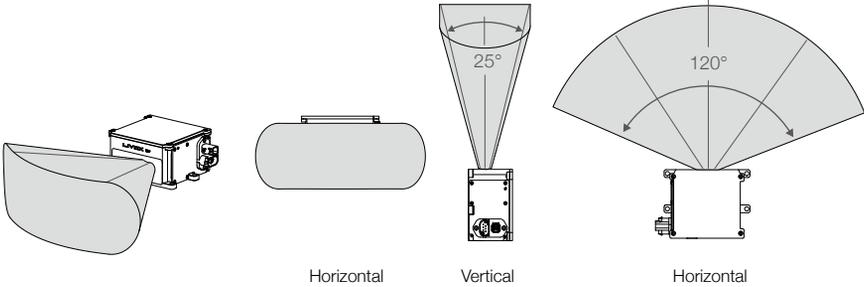

Figure 3.1.1 Effective FOV of the HAP (T1)
3. When mounting the HAP (T1), the field of view must not be blocked by an object, including glass. Refer to Figure 3.1.1.